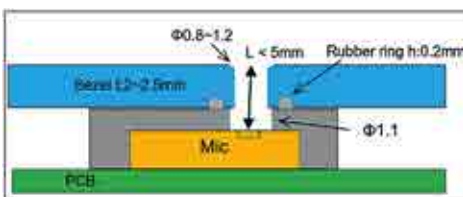

Figure 3: Design of rubber microphone holder and screen
The microphones in the array should have frequency responses that are as identical as possible and ideally differing from one another by no more than 1 dB. This allows the deviation of the calculation by the DSP to be reduced. The total length of the sound tunnel, i.e. the distance that the sound travels between the microphone and the upper edge of the screen (Figure 3) should not be more than 5 mm and the resonant frequency of the microphone channel should not be less than 12 kHz.
4. Sealing of rubber microphone holder: Another issue that can distort the sound quality is the sealing of the rubber microphone holder. To prevent the sound from the internal speaker on a device getting through a gap in the microphone's sound tunnel (Figure 3), the rubber holder and the screen on the microphone must be smoothly sealed. In addition, the sound insulation should be a minimum of 20 dB SPL (decibels sound pressure level).